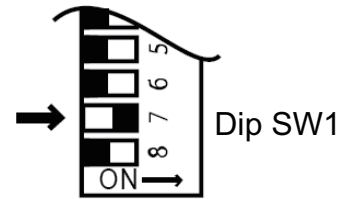

Fig. 3
10. Set the Rinnai to '**Forced Low**' combustion by setting No.7 switch of Dip SW1 to 'ON'. (Fig. 3)